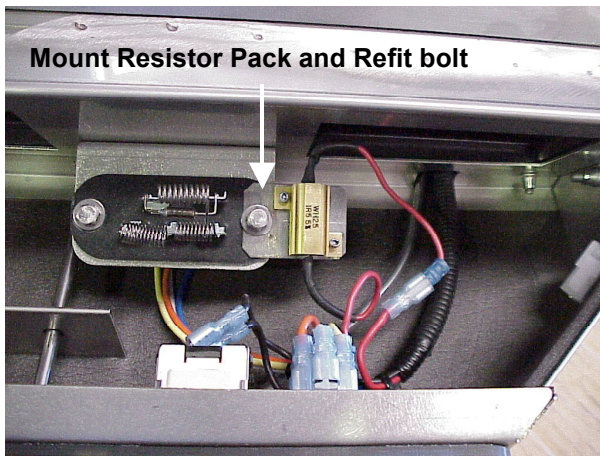

Figure 2 – Refitting of Bolt
- c. Locate the resistor pack over the bolt hole and refit the bolt (Figure 2).